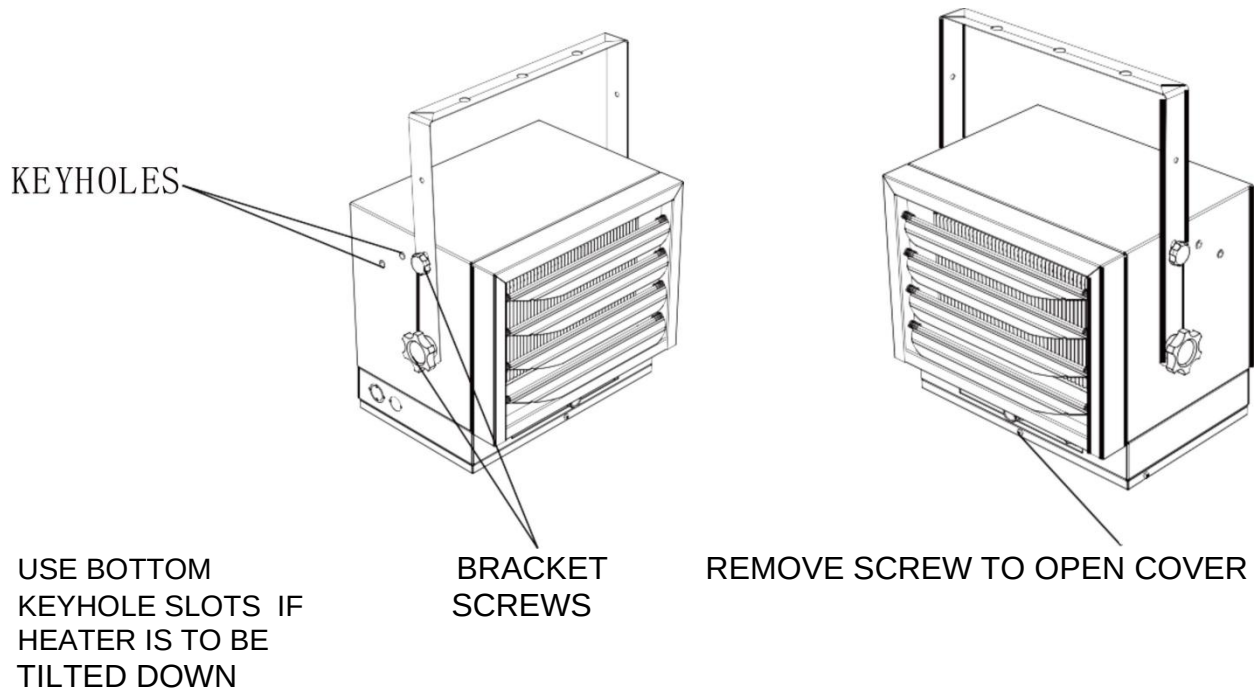

Figure 4
- 3) If the heater is to be tilted, it must be positioned in the keyhole slots. (see figure 4).
2. To tilt the unit vertically, loosen the bracket screws (see figure 4) and see figure 6 to view multiple vertical angles.